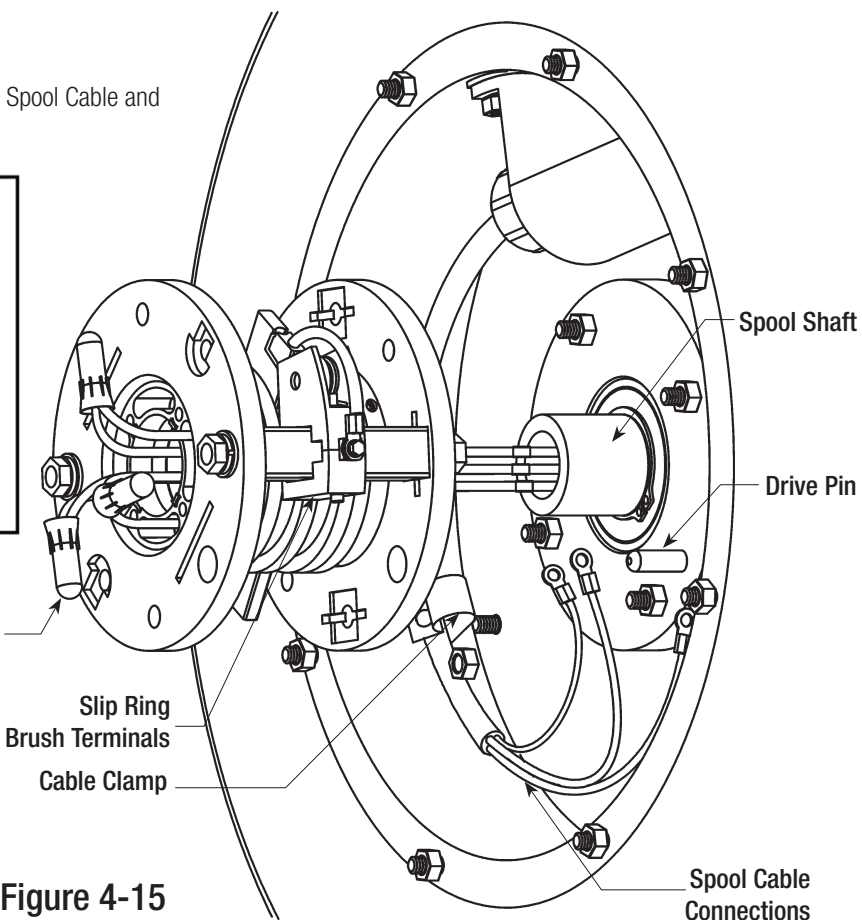

Figure 4-15
4. Disconnect the Slip Ring Core Leads from the Junction Box terminals or, if there is no Junction Box, cut the wire as close as possible to the crimp connector. **See Figure 4-15.**